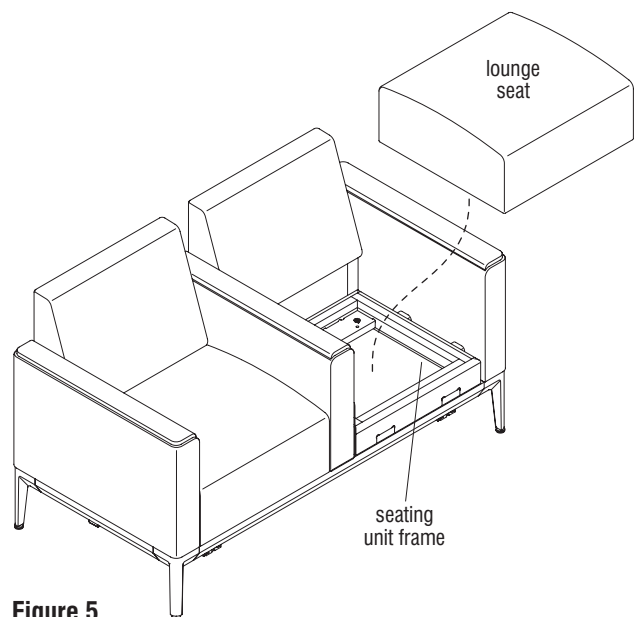

Figure 5
6. With the assistance of a second person, carefully turn the lounge unit to the upright position (Figure 5).
7. Remove the lounge seat from the seating unit frame. Set the removed lounge seat out of the way for the lounge seat replacement process (Figure 5).
1. Place the replacement lounge seat into the original location on top of the seating unit frame (Figure 5).